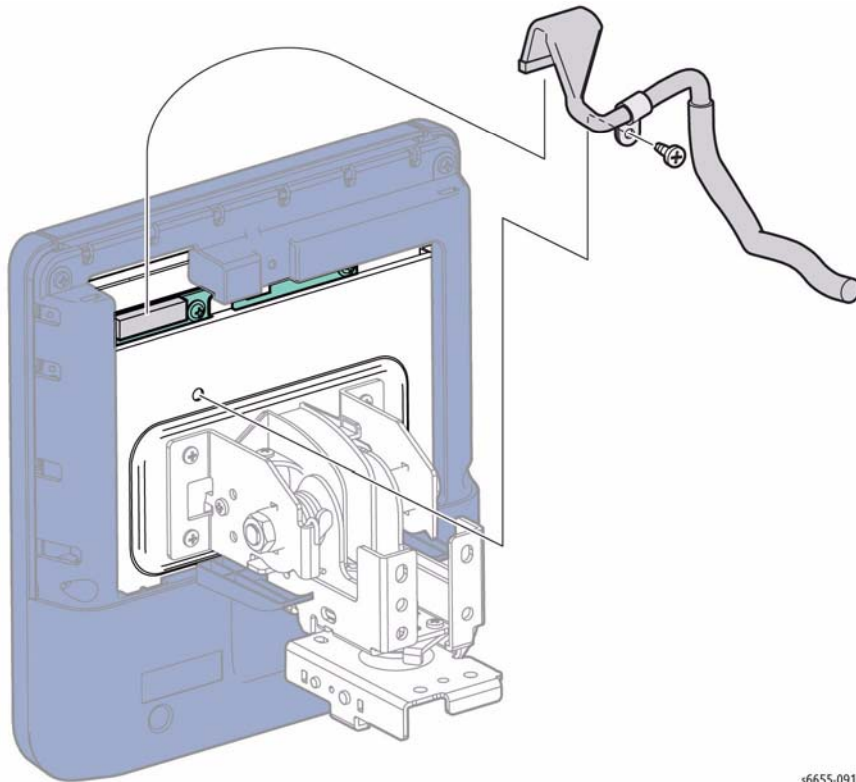

Figure 1 Disconnect the Control Panel Cable
3. Refer to Figure 1 to locate and remove one screw and one tie that secure the UI cable to the Control Panel.